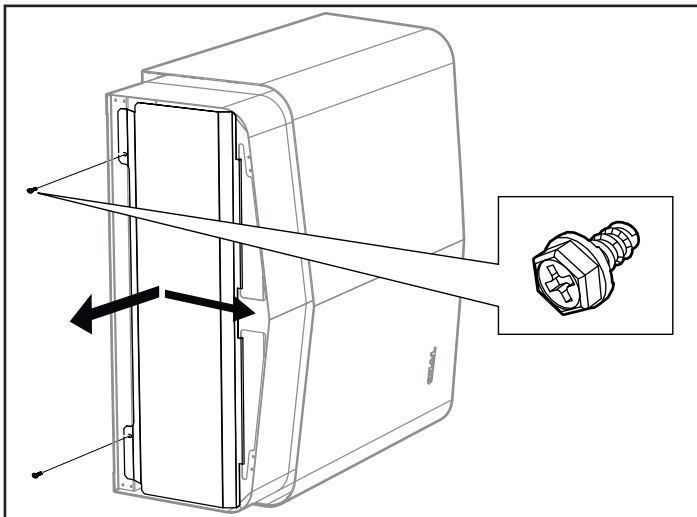

Figure 9: Opening/closing the cover
1. Undo the screws and open the cover (see Figure 9).
4. Close the cover and tighten the screws (see Figure 9).